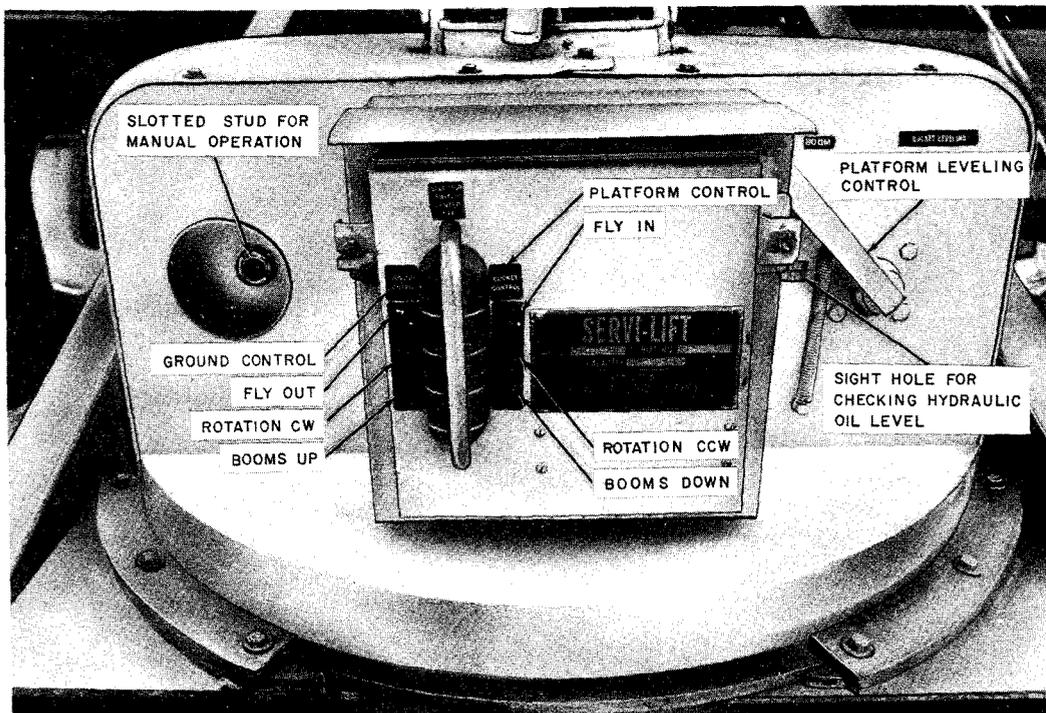

Fig. 3—Controls on Turret
5.03 To rotate the boom manually, insert the screwdriver end of the handcrank (supplied as part of lift equipment) into the opening on the turret (see Fig. 3). Engage the crank in the slot
- (d) Check the oil level in the hydraulic reservoir. This may be checked through the sight hole shown in Fig. 3.